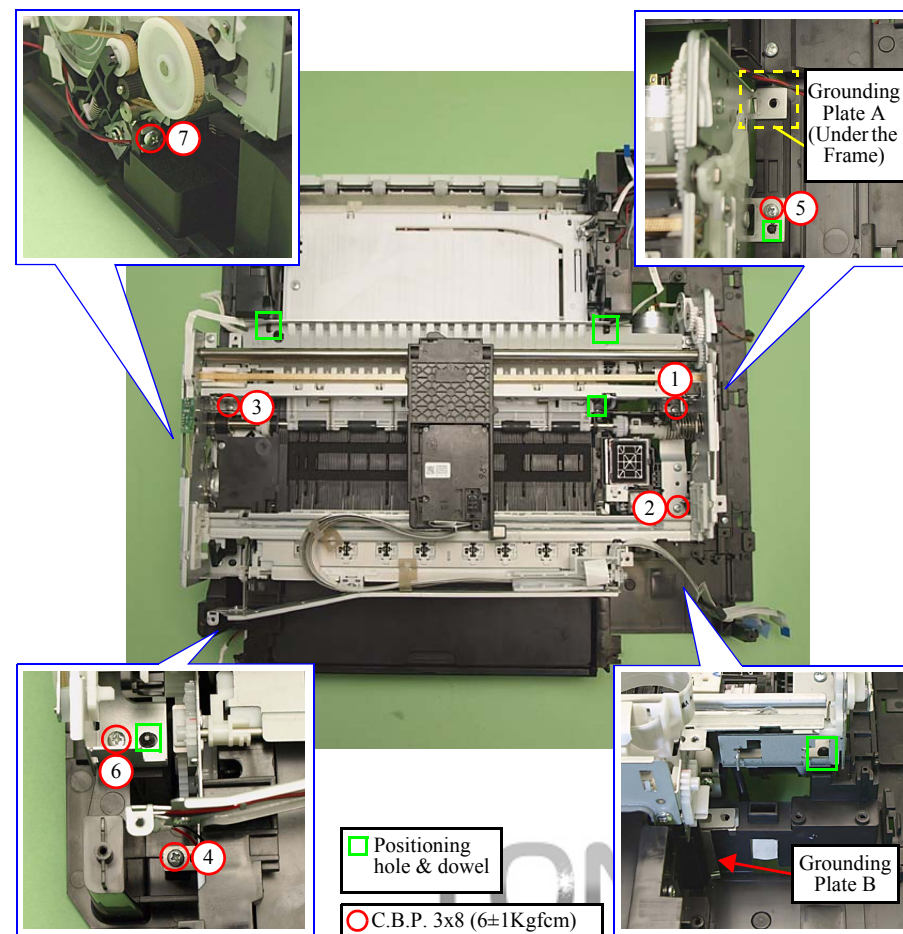
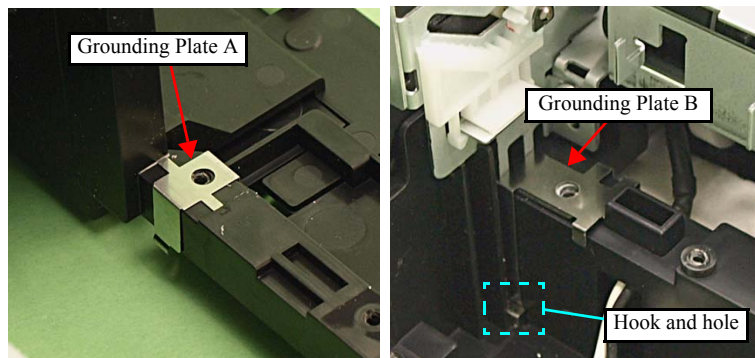

Figure 4-106. Removing the Main Frame (2)
Figure 4-107. Attaching the Grounding Plate
4. Remove the Grounding Plate B. (See Fig. 4-106.)
- Attach the Grounding Plate A between the Main Frame and Base Frame. (See Fig. 4-106, Fig. 4-107.)
- When installing the Grounding Plate B, attach the hook of it to the hole of the Base Frame, and place it over the Main Frame. (See Fig. 4-106, Fig. 4-107.)
- Align the positioning holes (x6) of the Main Frame with the dowels (x6) of the Base Frame. (See Fig. 4-106)
- Tighten the screws in the order shown in Fig. 4-106.